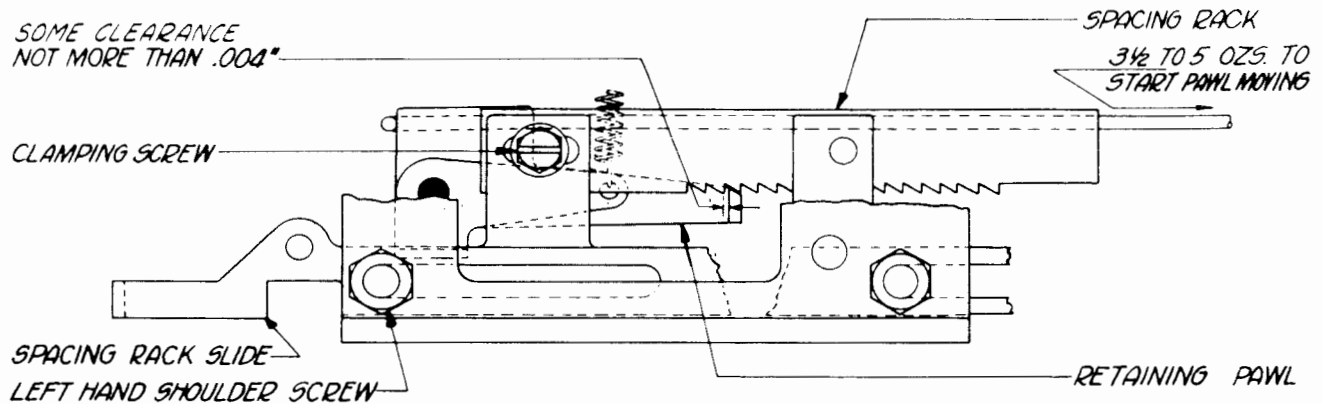

Figure 19
(a) With the operating camsleeve in its stop position and the spacing-rack slide moved to the right until it rests against the left-hand shoulder screw (return position), there should be some clearance, not more than 0.004 inch, between the retaining pawl and the second tooth from the left end of the spacing rack. See Figure 19.
2.41 Retaining-pawl Spring: With the spacing-rack slide in the returned position, hook a scale over the upper end of the retaining pawl and pull horizontally to the right. It should require a pull of minimum 3-1/2 ounces, maximum 5 ounces, as indicated in Figure 19, to start the pawl moving. See Figure 19.